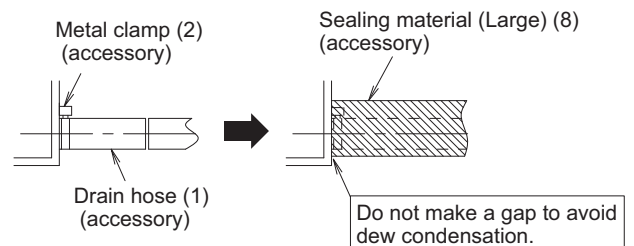
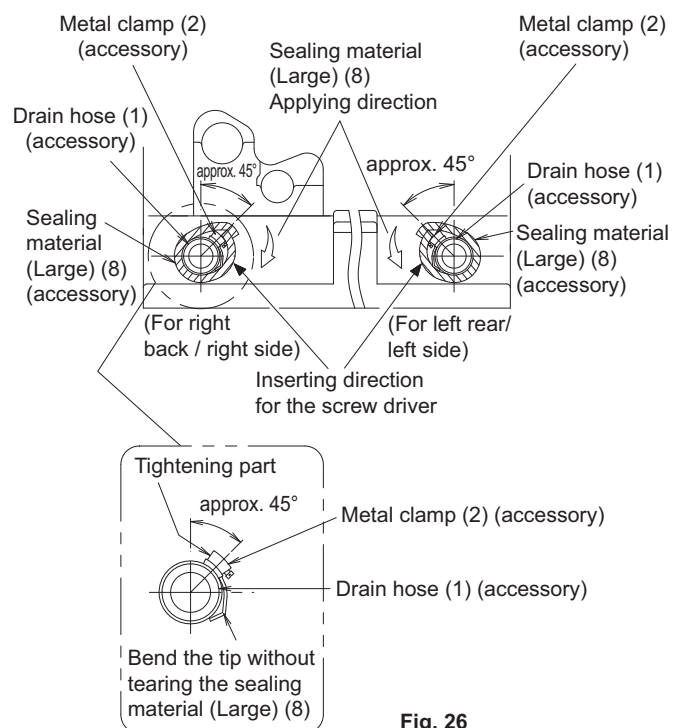

Fig. 25
Fig. 26
(Refer to Fig. 25 and Fig. 26)
(Install the metal clamp (2) so that the tightening part is in the range of about 45° as shown in the Fig. 26.)
- Bend the tip of the metal clamp (2) so that the sealing material does not bulge. (Refer to Fig. 26)
- When performing insulation, wind the large sealing material (Large) (8) attached starting from the base of the metal clamp (2) and drain hose (1) in the direction of the arrow. (Refer to Fig. 25 and Fig. 26)